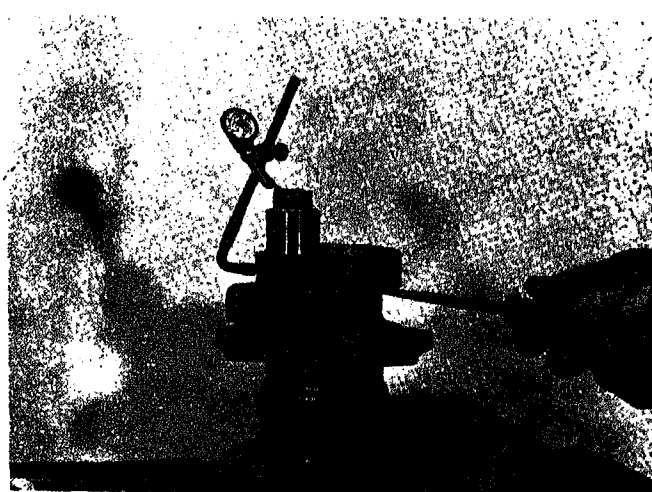

Fig. 12-2-28. Check crankshaft end clearance
6. Check crankshaft end clearance. Fig. 12-2-28. Clearance must be .004/.009 inch. (It is necessary to manually deflect [depress] waviness from thrust washer to make end clearance tolerance check).